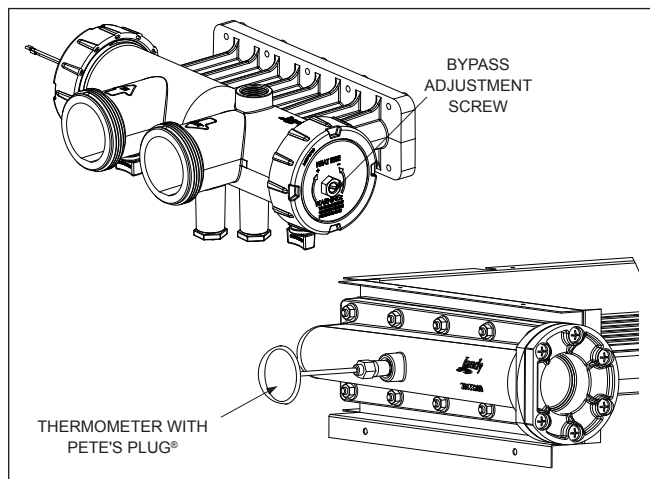

Figure 25. Temperature Rise Measurement
**These procedures require a Volt-Ohm meter with a minimum 0-250VAC voltage range, and 1-1000 Ohm resistance range. Figure 25 shows the power and control circuits and where to take measurements. Location numbers in circles have been added, and will be referenced in the following sections.**
Before checking the temperature rise, make sure that the pool filter is clean and that gas supply and burner pressures are correct. If necessary, clean all components of the filter system. Temperature rise is measured in the return header of the Legacy. To measure the temperature rise, turn off the filter pump and remove the plastic plug protruding through the cabinet on the return header side of the heater. See Figure 25.
4. After three (3) minutes, note and record the thermometer reading. This is the pool water temperature.
5. Start the heater by setting the control panel to either "POOL" or "SPA". Allow the heater to operate for five (5) minutes or more. Note and record the thermometer reading. Subtract pool water temperature from this reading. This difference is the temperature rise. Refer to Table 9. If your measured temperature rise is within the range designated for your heater, skip steps 6 through 8.
6. Locate the bypass adjustment screw on the right-hand side of the header, see Figure 25. Loosen the nut so that the screw can be adjusted. A slight water leak past the nut may be expected. Turn the screw counterclockwise to decrease the temperature rise, and clockwise to increase the temperature rise as needed to achieve the ranges in Table 5. After the adjustment, tighten the nut so that no leaks occur.